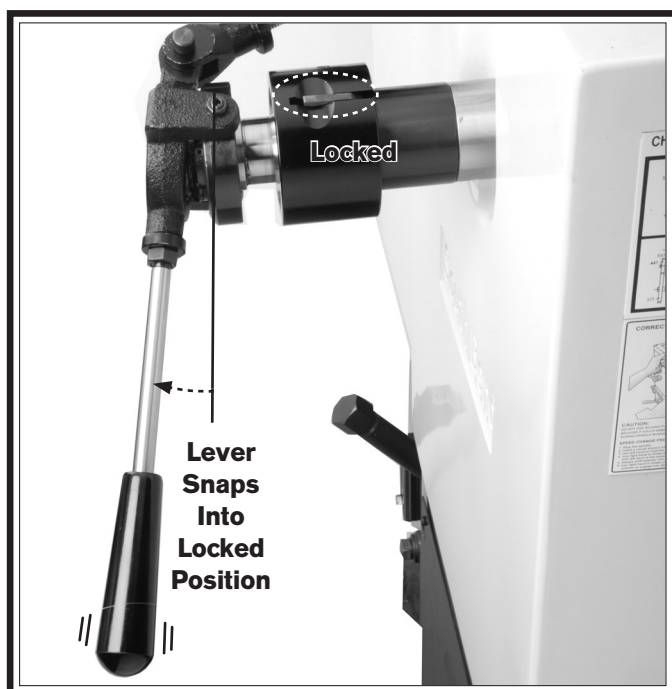

Figure 15. Collet attachment completely locked and ready for use.
24. At this point, the chuck sleeve and the collet attachment lever should be locked and positioned outward from the gear cover as shown in **Figure 15**. The workpiece or dowel must be held firmly without slippage when pulled by hand.